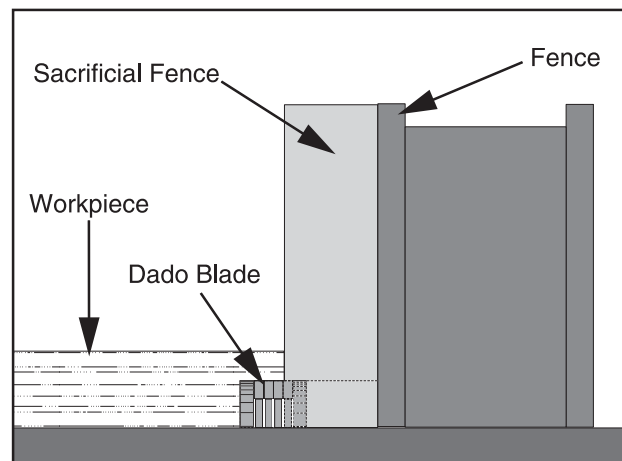

Figure 50. Rabbet cutting.
3. Adjust the fence and align the workpiece to perform the cutting operation as shown in **Figure 50**.